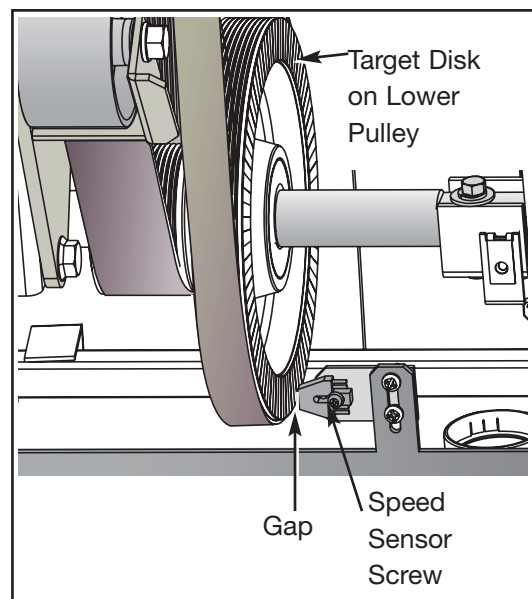

Figure 3
- A. Turn the lower pulley slowly and look for dirt, scratches or other damage on the target disk. See Figure 3. **NOTE:** If the target disk or speed sensor is dusty use a soft dry cloth to wipe off the dust. A dirty, scratched or damaged disk may cause Error 3 to occur.
- A. Measure the gap between the speed sensor and the lower pulley. It should measure $\frac{3}{16}$ " (.48 cm) and should be parallel to the lower pulley. See Figure 3.
- A. Using a Phillips head screwdriver, loosen the screw securing the speed sensor in place. See Figure 3. **NOTE:** *Gently bend the side cover to get at the speed sensor screw.*
- B. Adjust the gap between the speed sensor and the lower pulley to 3/16" (.48 cm) and tighten the screw. See Figure 3.